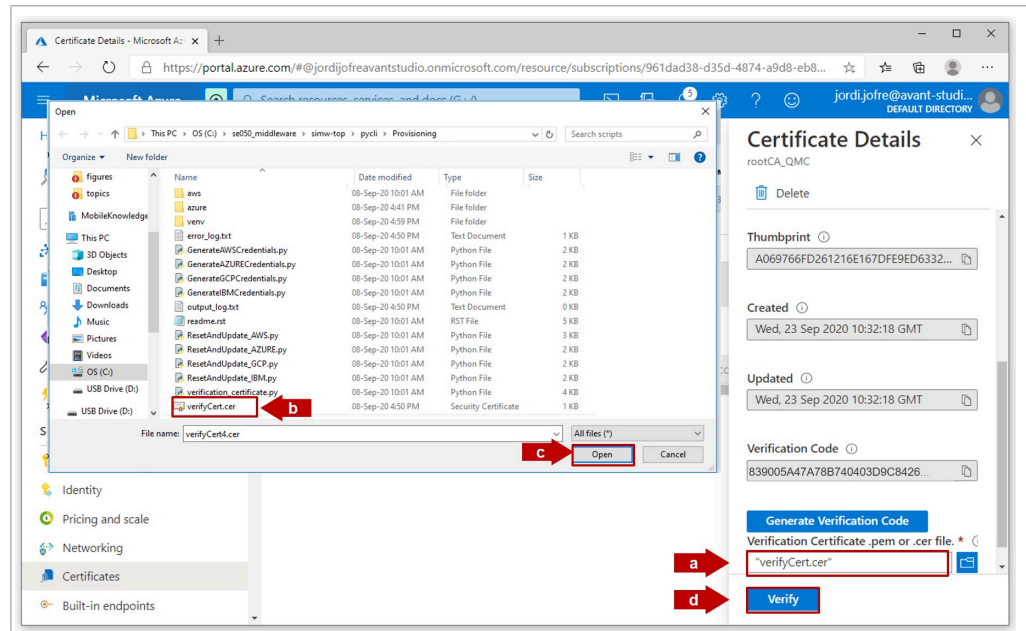

Figure 59. Root CA certificate verification
1. In the Azure IoT Hub portal, do as shown in Figure 59: